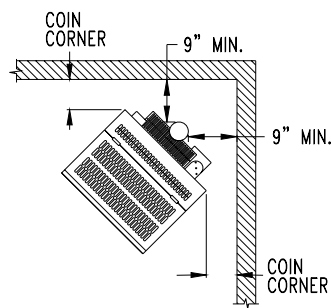

Figure 1 : CORNER INSTALLATION
- Many configuration are possible, the most frequent are illustrated in figures 1,2 and 3.